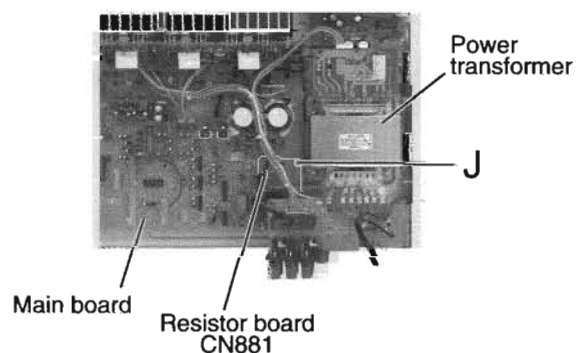

Fig.13
■ Removing the resistor board (See Fig.13)